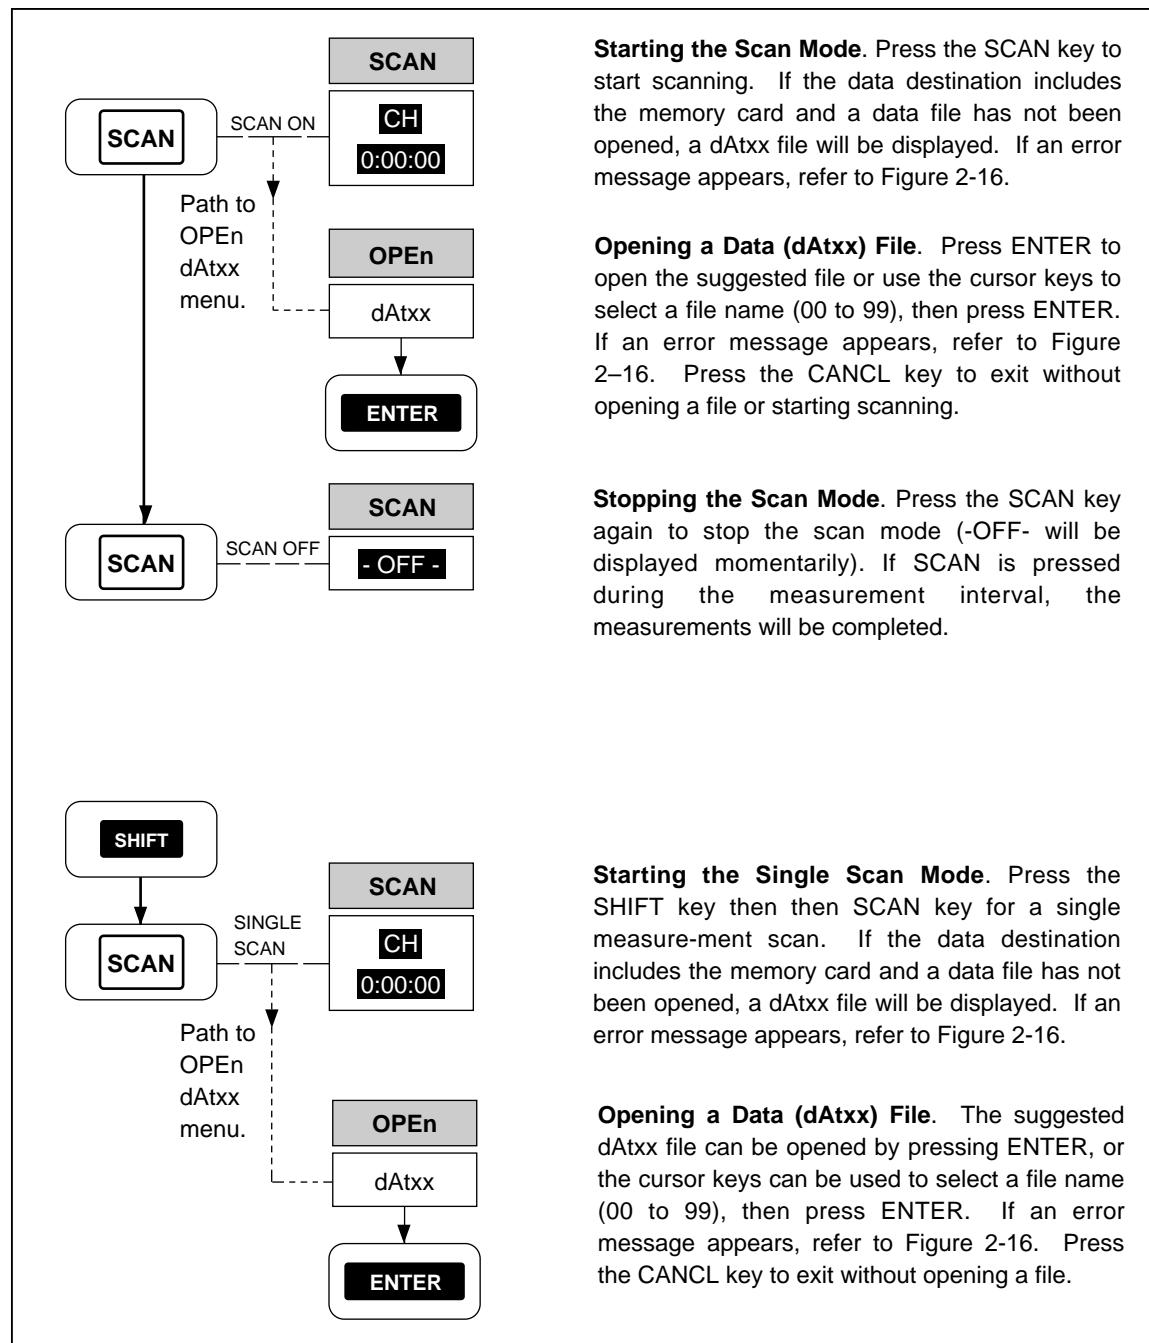
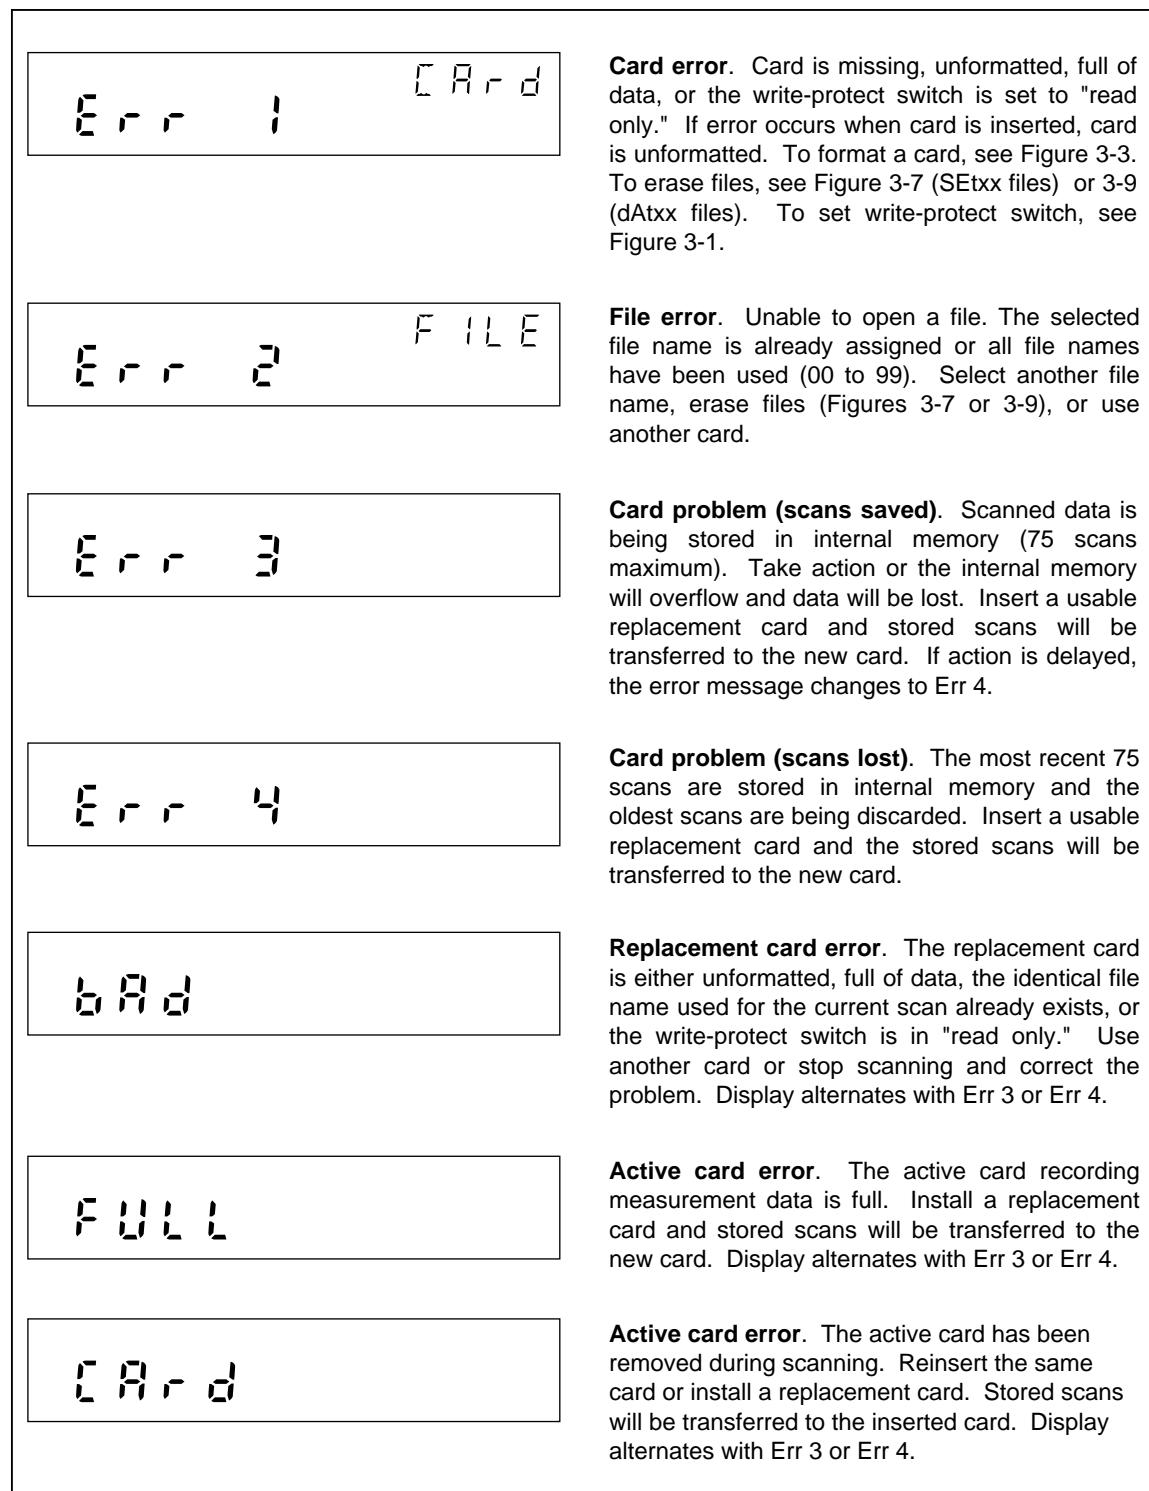
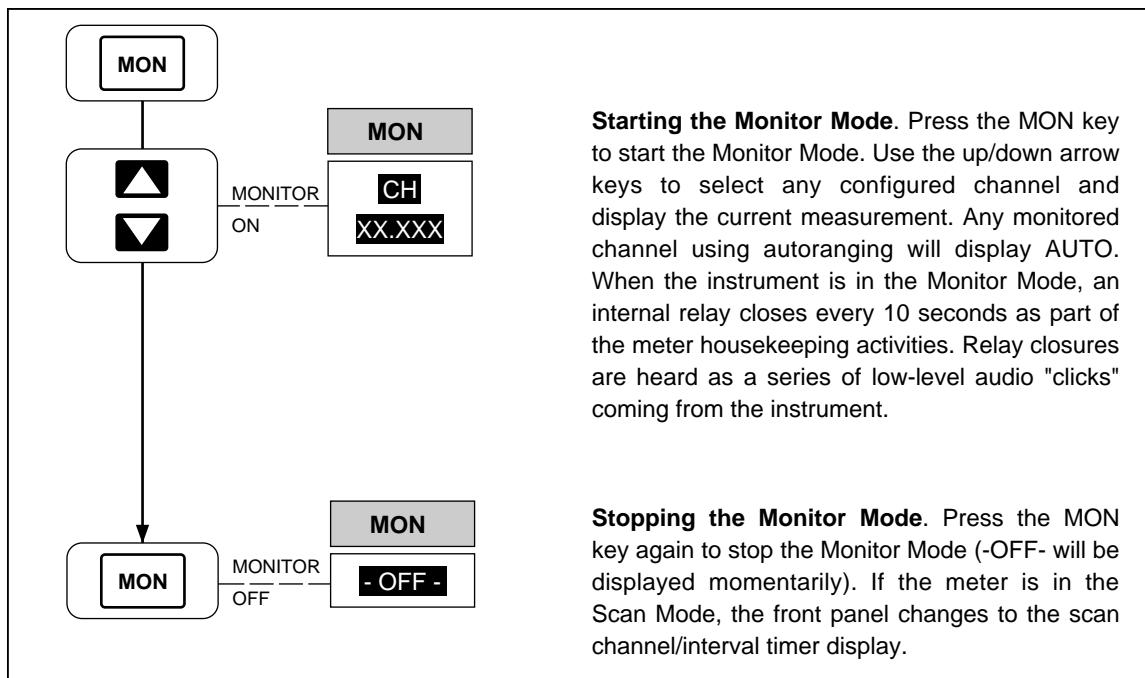
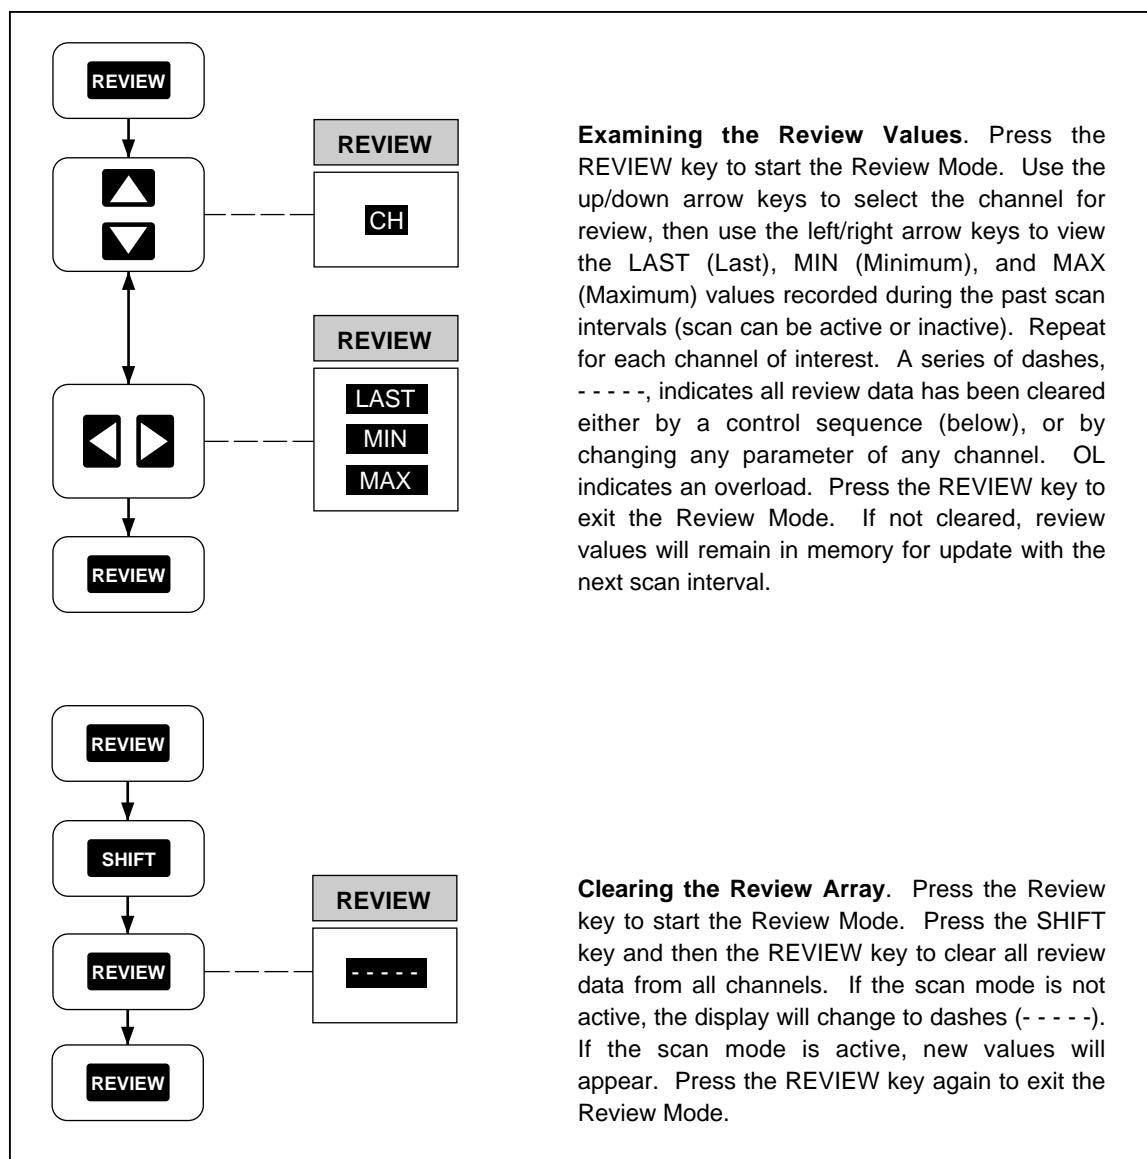

Figure 2-15. Using the Scan Mode
Figure 2-16. Memory Card Error Messages
Figure 2-17. Using the Monitor Mode
Figure 2-18. Using the Review Mode
If a scanned channel is in an alarm condition during the scan, the ALARM annunciator is turned on (dim display). If all alarm conditions clear during the next scan, the ALARM annunciator is turned off. See Figure 2-15 for information about the Scan Mode.
If the channel being monitored is in an alarm condition, the alarm limit 1 and/or 2 annunciators will be turned on, and the ALARM annunciator blinks bright/dim. The alarm limit annunciator indicates which alarm has been exceeded. If the monitored channel is not in alarm, the ALARM annunciator will be off, unless scanning and some other channel is in alarm, then the ALARM indicator has a steady dim display. See Figure 2-17 for information about the Monitor Mode.
- Using the Scan Mode (Figure 2-15)
- Using the Monitor Mode (Figure 2-17)
- Using the Review Mode (Figure 2-18)
Perform the procedure in Figure 2-15 to start and stop the Scan Mode of operation. The Scan Mode can be started when the instrument is inactive, in Monitor (Figure 2-17), or Review (Figure 2-18). Measurement results can be sent to a memory card (see Chapter 3, "Memory Card Operations") and PC (see Chapter 4, "Computer Operations") or printer (see Chapter 5, "Printer Operations"). When using the Scan Mode with a memory card, consider each of the following topics. (Memory card error messages are summarized in Figure 2-16.)
3/bAd is displayed (see Figure 2-16). Err4/bAd indicates the internal memory is full, saving only the most recent 75 scans. The new card is updated with the scans in memory.
Any illegal memory card operation results in a double "beep" and an error display as shown in Figure 2-16. If the instrument is scanning and in the Monitor Mode or Review Mode, only the double beep will be heard for a memory card error. Error messages are acknowledged by pressing the **ENTER** key or by ejecting the memory card.
Perform the procedure in Figure 2-17 to start and stop the Monitor Mode of operation. The Monitor Mode can be started when the instrument is in the inactive mode or in the Scan Mode. The Monitor Mode commands the instrument to display the present measurement for any selected channel (except channels set to OFF) and to display alarm information if the channel is in alarm. If the Monitor Mode is used without the Scan Mode, the instrument operates like a multimeter. If the Monitor Mode is used with the Scan Mode, the instrument also operates like a multimeter but measurements can be recorded into memory, printed out, and reviewed (maximum, minimum, last values). The Monitor-Alarm triggering option uses the Monitor Mode to start or stop scans when a selected channel goes into or out of alarm (see Figure 2-19). If the instrument is in the Monitor Mode and scanning using the memory card, any illegal memory card operations are noted only with a double "beep." When you hear a double beep, exit the Monitor Mode and investigate the memory card error (see Figure 2-16).
Perform the procedure in Figure 2-18 to operate the Review Mode of operation. The Review Mode is used any time during or after operation of the Scan Mode. While the instrument is in the Scan Mode, the last, maximum, and measurements for each scanned channel are stored in memory and updated with each scan, forming the Review Array. For example, during scan operations, [REVIEW] can be used to monitor the maximum measurement of a channel in real time. The Review Array is cleared by a control sequence (see Figure 2-18 below), or by changing any parameter of any channel or the measurement rate. The Review Array can be printed out using the [LIST] key (see Figure 5-4). If the instrument is in the Review Mode and scanning using the memory card, any illegal memory card operations is noted only with a double "beep." If a double beep is heard, exit the Review Mode and check the memory card error (see Figure 2-16).
To verify the equipment setup when the memory card is used to record data, use the Single Scan mode (see Figure 2-15) to record a single scan. Any problems with the memory card or setup can be observed and corrected. If a triggering option triggers scanning without an open memory card dAtxx file, the instrument will automatically open a file when a usable memory card is in the instrument. If no memory card is installed or the memory card is not usable, the most recent 75 scans are saved in an internal memory. To record the saved scans, insert a usable memory card and open a file (see Figure 3-8). The stored scans will be transferred to the card.